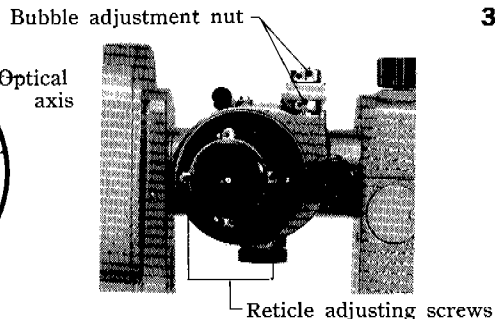

Fig. 26
6. Rotate the two horizontal reticle adjusting screws (see Fig. 26) with the adjusting pin. Move the reticle so that point D is set on the line of sight.
7. Repeat from (1) and check that adjustment is correct.
8. Rotate the bubble adjustment nut (Fig. 26) with the adjusting pin to center the bubble in the telescope level.
9. Repeat from (5) and check the adjustment is correct.